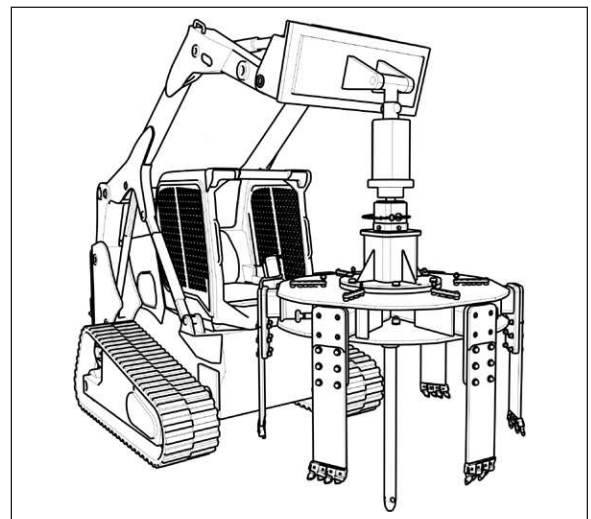

Figure 17. Cutter Attached To Skid Steer
22. Once the Six Shooter is securely attached to the Auger Drive on the skid steer loader, remove the Supporting Legs. [A-MM0118] See Figure 17.